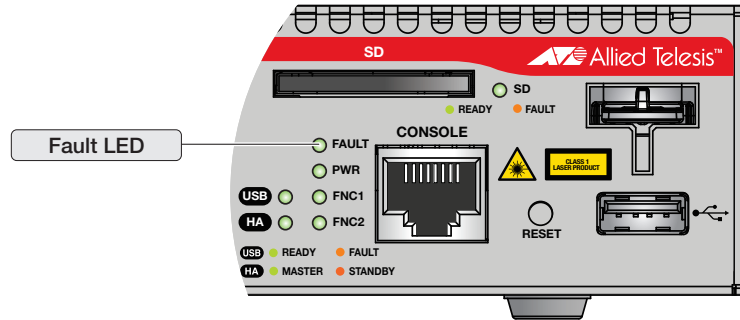

Figure 6. Fault LED
**Fault LED** The Fault LED reports the status of the router. The LED is shown in Figure 6.